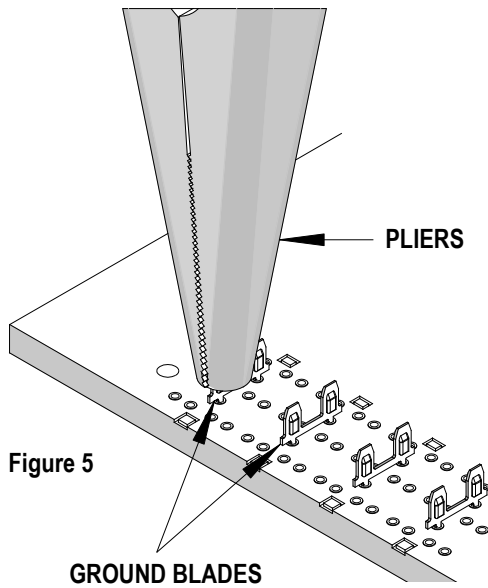

Figure 5
6. Remove the remaining ground blades from the printed circuit board using Needle Nose Pliers. See Figure 5.